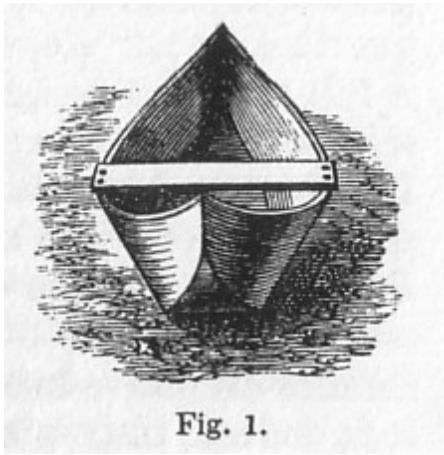
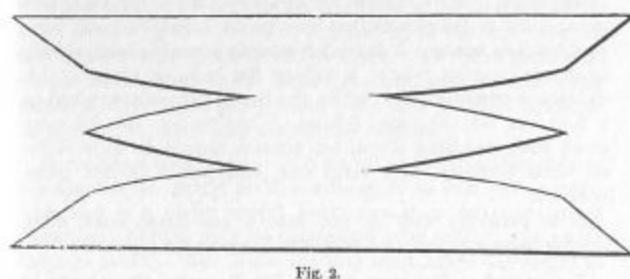

Fig. 1.
Fig. 2.
Two large open gourds are nicely balanced, and fixed, bottom downwards, on a bar or yoke of light wood, 4 feet long, 4 1/2 inches wide, and 3/4 or 1 inch thick. The fisherman, or traveller, packs his gear into the gourds; launches the makara into the river, and seats himself astride the bar. He then paddles off, with help of his hands (fig. 1). When he leaves the river, he carries the makara on his back (fig. 2). The late Dr. Barth wrote to me, "A person accustomed to such sort of voyage, sits very comfortably; a stranger holds on to one of the calabashes. There is no fear of capsizing, as the calabashes go under water, according to the weight put upon them, from ten to sixteen inches. The yoke is firmly fastened to the two calabashes, for it is never taken off. I am scarcely able, at present, to say how it is fastened. As far as I remember, it is fixed by a very firm lashing, which forms a sort of network over the calabash, and at the same time serves to strengthen the latter and guard it against an accident." It is obvious that the gourds might be replaced by inflated bags or baskets, covered with leather, or by copper or tin vessels, or by any other equivalent. I quite agree with Dr. Barth, that a makara would be particularly suitable for a traveller. In Bornu, they make large rafts, by putting a frame over several of these makara, placed side by side.
Canoe of Three Planks.—A swift, safe, and graceful little boat, with a sharp stem and stern, and with a bottom that curves upwards at both ends, can be made out of three planks. The sketch, fig. 1, is a foreshortened view of the boat, and the diagram, fig. 2, shows the shape of the planks from which it is made. The thwart or seat shown in fig. 1 is important in giving the proper inclination to the sides of the boat, for, without it, they would tend to collapse; and the bottom would be less curved at either end. If the reader will take the trouble to trace fig. 2 on a stout card, to cut it out in a single piece (cutting only half through the cardboard where the planks touch), and to fasten it into shape with pieces of gummed paper, he will understand the architecture of the boat more easily than from any description. If he wishes to build a boat he had best proceed to make as large a model in pasteboard as his materials admit, and to cut the planks to scale, according to the pattern of his model. The grace of the boat depends on the cut of its planks, just as much as the elegance of a dress does on that of its cloth. These three-plank canoes are in frequent use in Norway. Bark may be used instead of planks. If the canoe be built of five planks instead of three, a second narrow side-plank being added above each gunwale, the section of the canoe is decidedly improved.
Canoe of Reeds or Vegetable Fibre.--A canoe may be made of reeds, rushes, or the light inner bark of trees. Either of these materials is bound into three long faggots, pointed at one end: these are placed side by side and lashed together, and the result is a serviceable vessel, of the appearance fig. 1, and section as fig. 2. The Lake Titicaca, which lies far above the limit of trees, is navigated by boats made of rushes, and carrying sails woven of rushes also. Little boats are sometimes made of twigs, and are then plastered both inside and outside with clay, but they are very leaky.
2. Cut notches half-way through KK, at about 20 to 25 inches from each end; then turn up the notched portions, and you have stem, keel and stern, all in one piece, as in fig. 2.